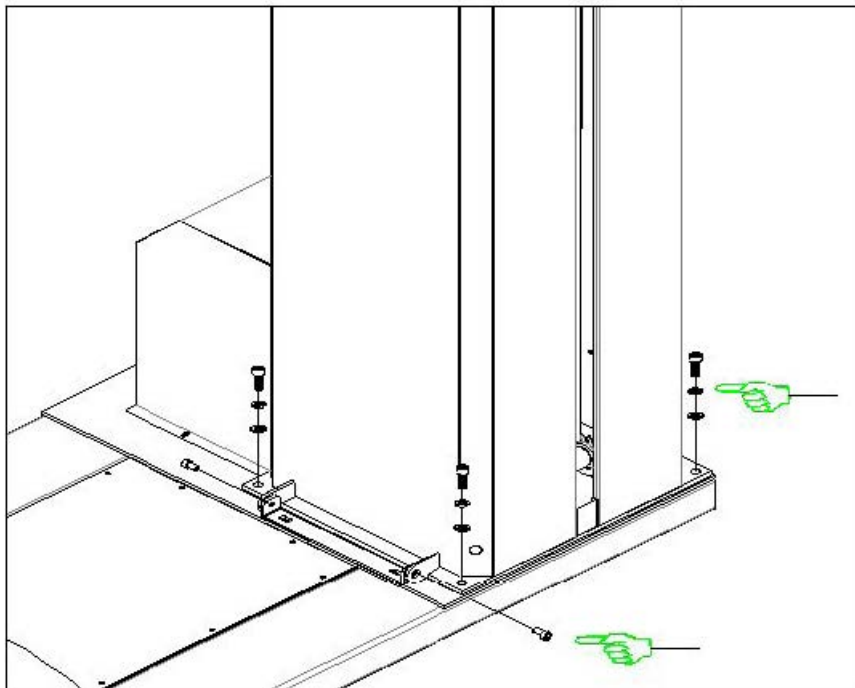

Figure 4
3. Tighten the screws between the tower and the turntable base (See Figure 4)